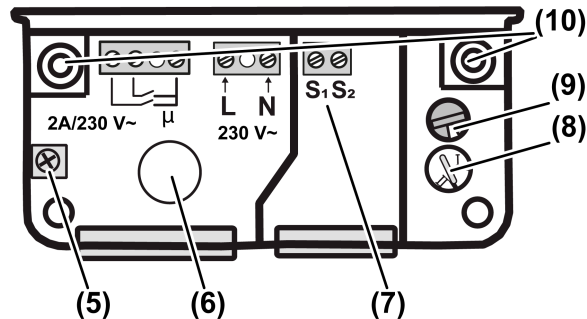

Figure 3: Evaluation unit connection compartment
- Remove the housing lid of the evaluation unit by slackening the two screws (3).
- For rear cable insertion, penetrate the rubber seal (6) and insert the cable (see figure 3).
- Turn the rotary switch to the (8) to the II position, factory setting (see figure 3).